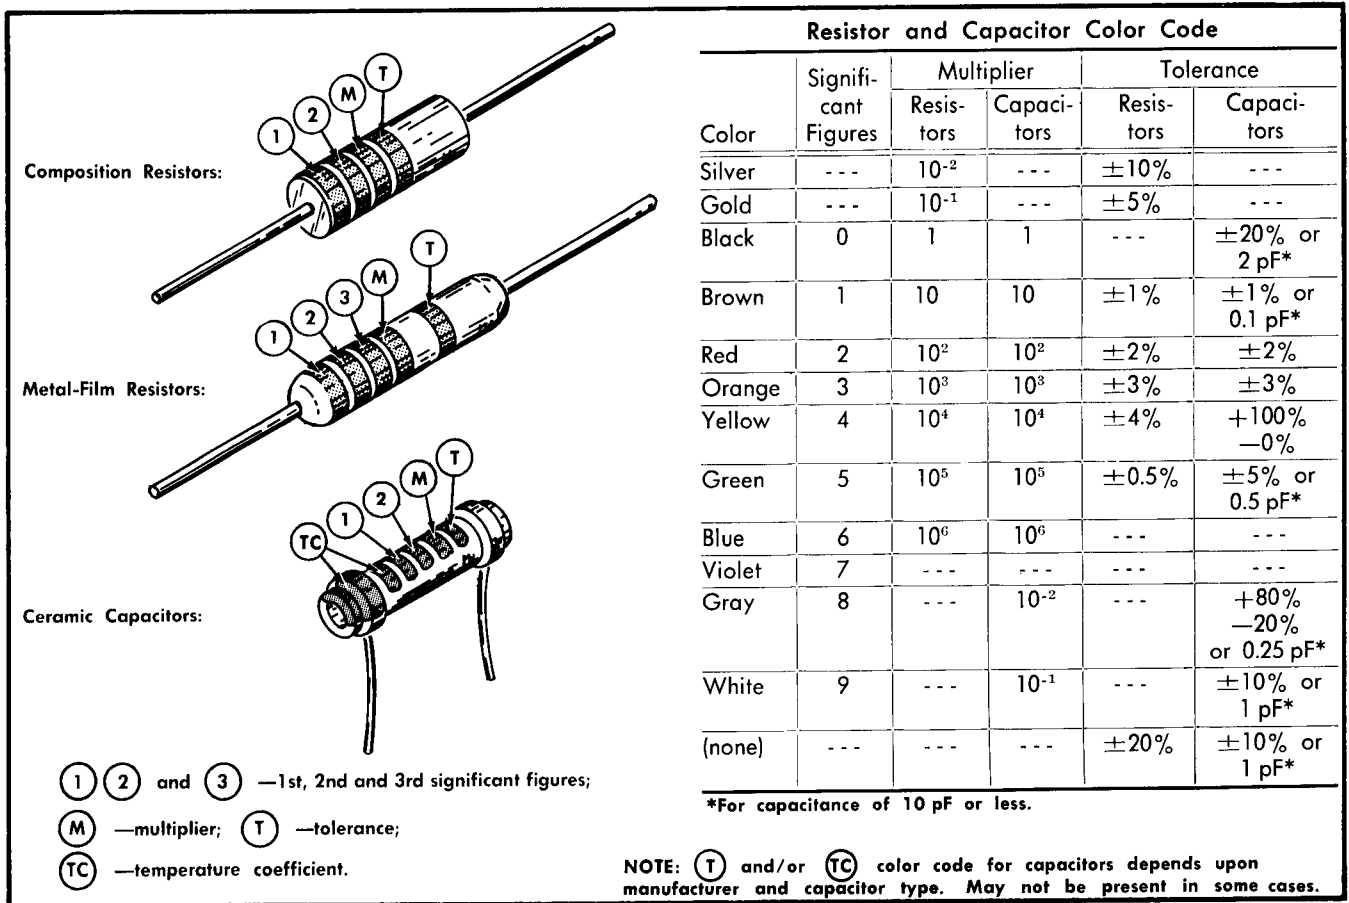

Fig. 4-1. Standard EIA color coding for resistors and capacitors.
**Resistor Color Code.** In addition to the brown composition resistors, some metal-film resistors and some wire-wound resistors are used in the Type 564B. The resistance value of a wire-wound resistor is printed on the body of the component. The resistance values of composition resistors and metal-film resistors are color-coded on the components with EIA color code. (Some metal-film resistors may have the value printed on the body.) The color code is read starting with the stripe nearest the end of the resistor. Composition resistors have four stripes which consist of two significant figures, a multiplier and a tolerance value (see Fig. 4-1). Metal-film resistors have five stripes consisting of three significant figures, a multiplier and a tolerance value.
**Capacitor Marking.** The capacitance values of common disc capacitors and small electrolytics are marked in microfarads on the side of the component body. The white ceramic capacitors used in the Type 564B are color coded in picofarads using a modified EIA color code (see Fig. 4-1).